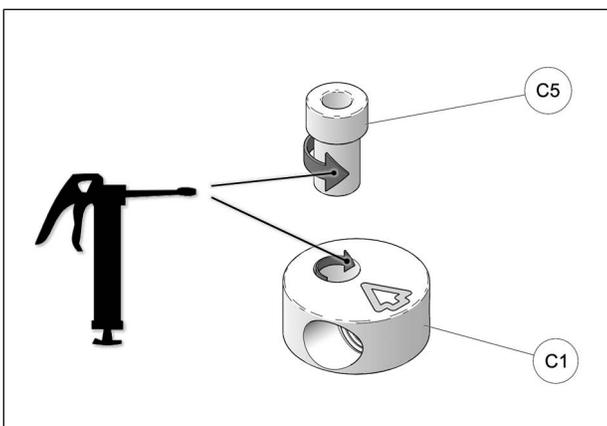

Fig. 26
13. Apply grease evenly all around step spacer bushing (C5) and in hole of aluminum disk (C1) when assembling these parts together. See Fig. 26